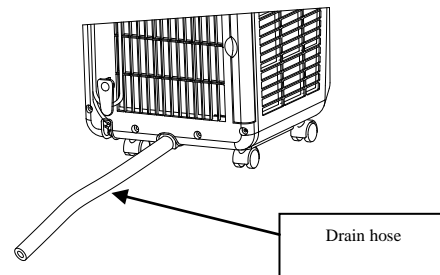

Figure 12
2). Insert the OD 13mm PVC drain hose 8mm-10mm into the water outlet; (Figure 12)